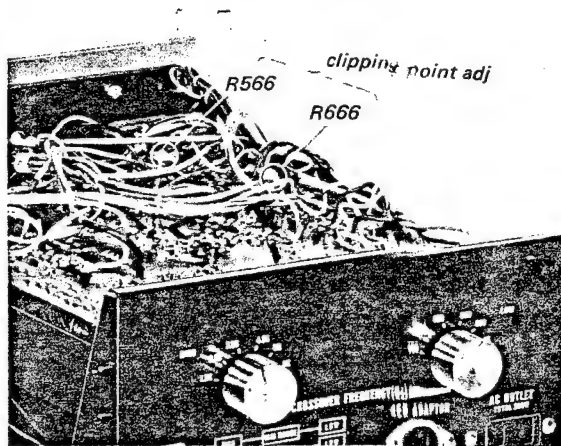

Fig. 3-6 Parts location
2. Adjust potentiometer R566 (semifixed resistor) See Fig. 3-6, so that the positive and negative peaks of the output waveform are simultaneously clipped.